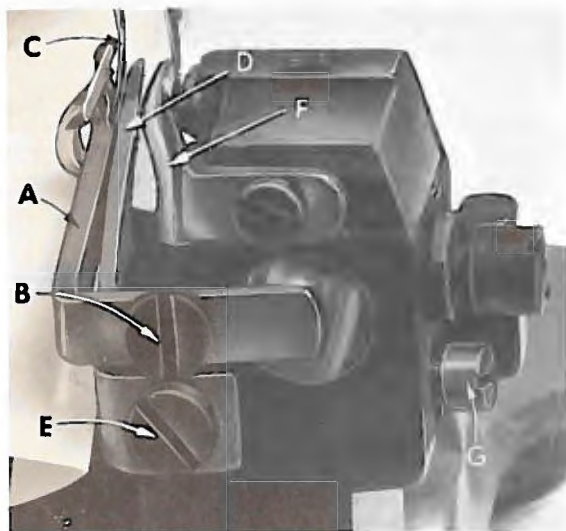

Fig. 5
Set the rear needle guard (A, Fig. 5) as high as possible without interfering with either the lower spreader or movement of the lower knife holder, but still in position to deflect the needle forward .002 to .004 inch. Screw (B) is used to set rear needle guard. Make sure there is no interference between rear needle guard and lower spreader.
Now complete the lower spreader adjustment. As lower spreader moves to the right its point should be set into the needle scarf (C, Fig. 5) until the needle springs forward from the rear needle guard surface another .002 to .004 inch. This setting
Assemble front needle guard (D, Fig. 5). When lower spreader is springing needle off rear guard, set the front needle guard as close as possible to the needle without touching. Screw (E) is used to adjust and set the front needle guard. After making this setting, assure there is no interference between needle guards and differential feed dog.
Insert rear needle guard into the hole in the throat plate support bracket. Set height of guard (F, Fig. 5) approximately $\frac{3}{16}$ inch below the throat plate seat. Bring the 401 needle down until its point is $\frac{1}{64}$ inch below the widest portion of the guarding surface. Then bring the guard forward to deflect the needle forward